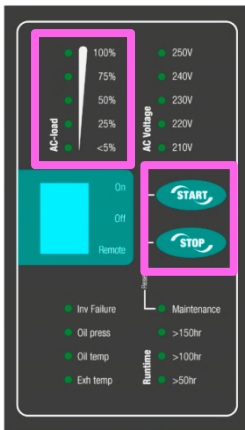

Figure 7: WP-PMG local panel
- 1 Push the START button on the WP-PMG local panel (Figure 7) and hold for two seconds to initiate the full automatic starting procedure. As a result, the electric system is activated.
Make sure that continuous load does not exceed 70% of maximum load (also refer to "CHECKS DURING LONGER OPERATION"). This is indicated on the top left part of the PMG local panel (Figure 7).
- 2 Press the PMG STOP button (Figure 7) and hold for 2 seconds.